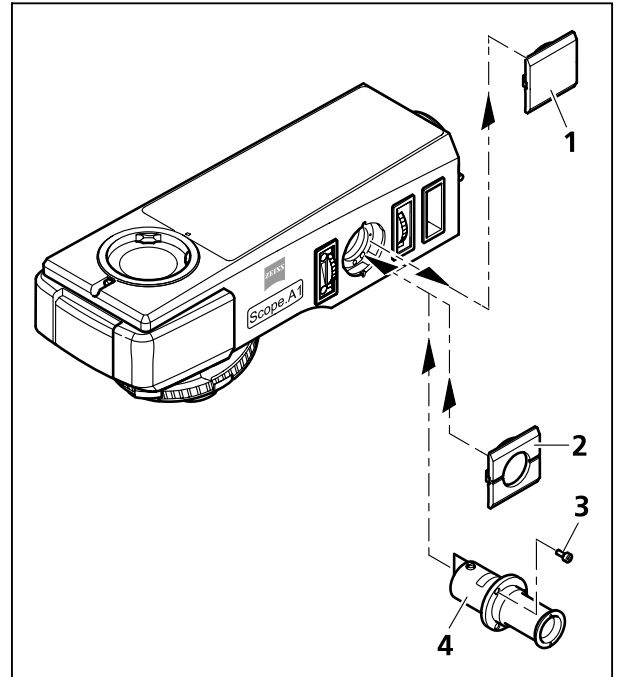

Fig. 3-26 Inserting the adjustment aid
- Remove the cover (Fig. 3-26/1) from the mounting aperture of the adjustment aid.
- Insert the adjustment aid (Fig. 3-26/4) and tighten the three included screws (Fig. 3-26/3).
- Mount the cap with the opening (Fig. 3-26/2). Make sure it locks.